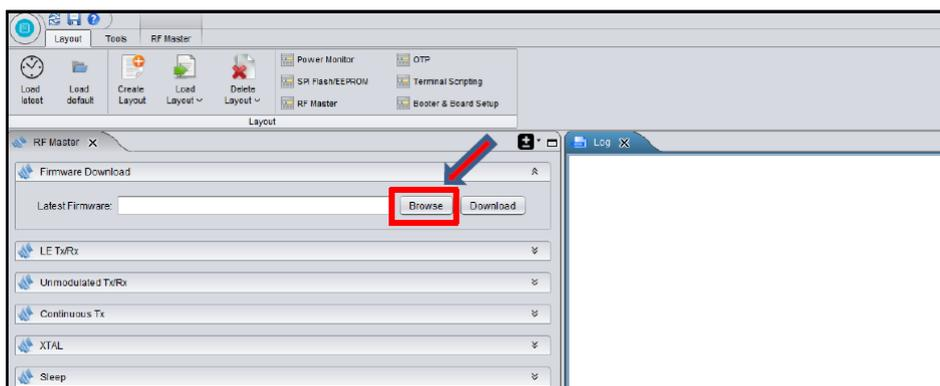

Figure 18: RF Master Window with Log
- Go to **Layout > RF master**. As shown in Figure 18, click **Browse** to download.